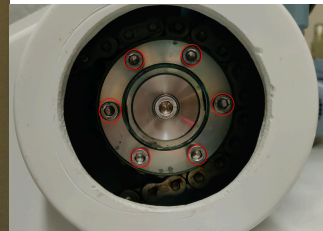

Fig. 4: Slipping clutch with Allen screws
- **Release the slipping clutches** of the shutter drives → to do this, **loosen the Allen screws** located in a circle (Fig. 4)